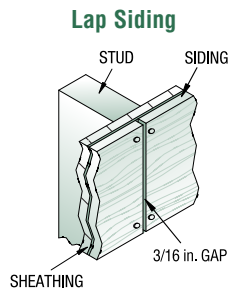

FIG. 2
- All lap products require that the butt joints be located on the studs and nailed at the joints. See Fig 2.
- Leave 3/16 in. gap at all butt joints, around all doors and window frames, and at joints in the soffits for all lap and square edge siding products. Seal all gaps. *See Fig 2.*
- Vertical butt joints must be located only on studs. Each piece of siding must be nailed top and bottom to studs. See Fig. 2.
- Nails should be placed no closer than 5/8 in. from any edge. Nails should penetrate both courses and be nailed both top and bottom on each side of the butt joint. See Fig. 2 and 4.